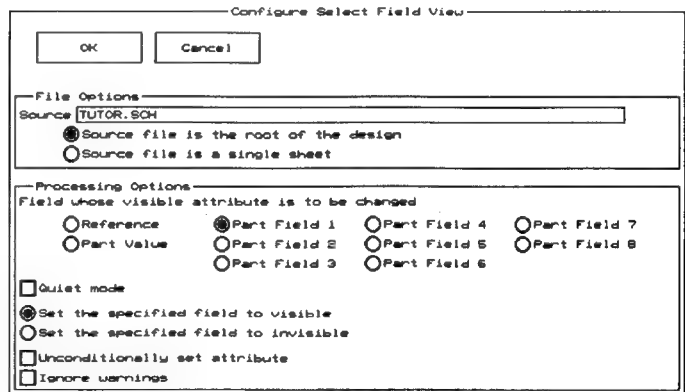

Figure 7-6. The **Configure Select Field View** screen.
1. Select **Select Field View** on the **Schematic Design Tools** screen, and then select **Local Configuration** and **Configure FLDATTRB**. The **Configure Select Field View** screen displays (figure 7-6).